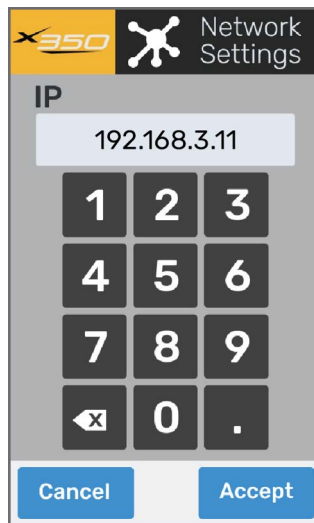

Figure 30 - Editing the IP Address
2. Tap the **IP** box, and then type a unique IP address for the head (**Figure 30**).